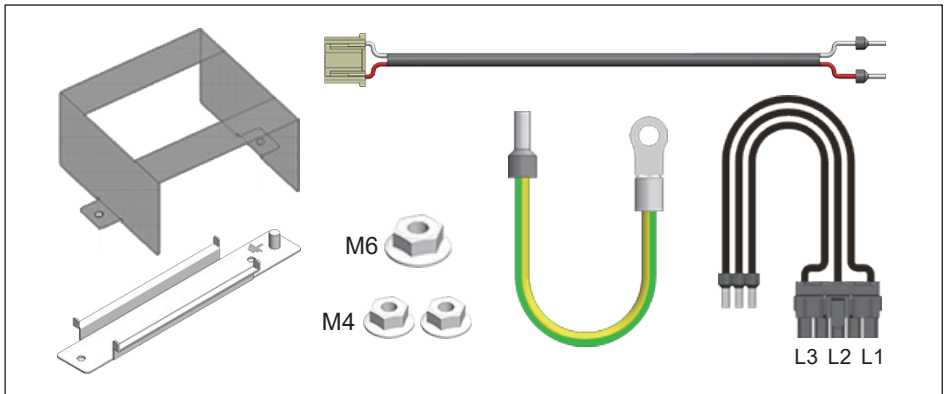

Figure A-7: AC SPD spare parts
- Exchange AC SPD, there are some spare parts for exchange SPD, such as AC power lines and signal wiring are shown in **Figure A-7**.